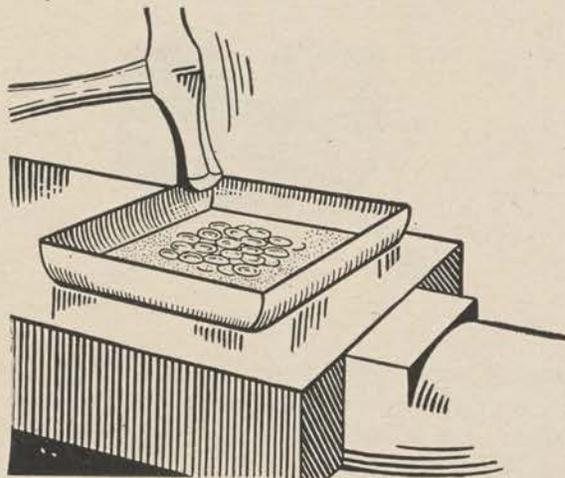

Figure 101.
*b.* Planishing is one of the commonest methods of finishing metal. This consists of giving it an uneven surface by hammering it with the round end of a ball pein hammer (fig. 101). The article should rest on a metal surface, an anvil for flat work, a rounded metal stake for curved objects. Generally it